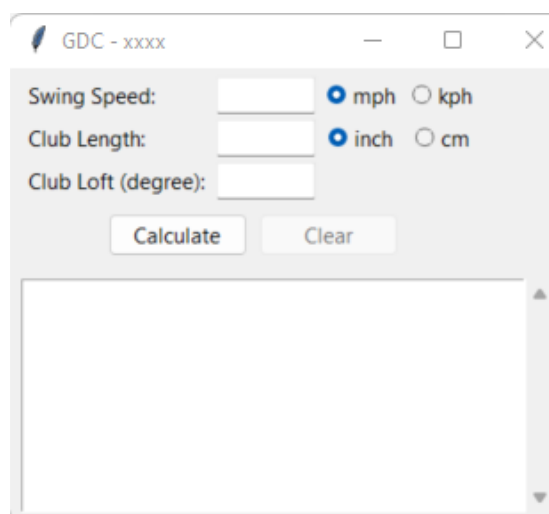

Figure 4
- (a) Develop and implement the GDC GUI application as shown in Figure 4.